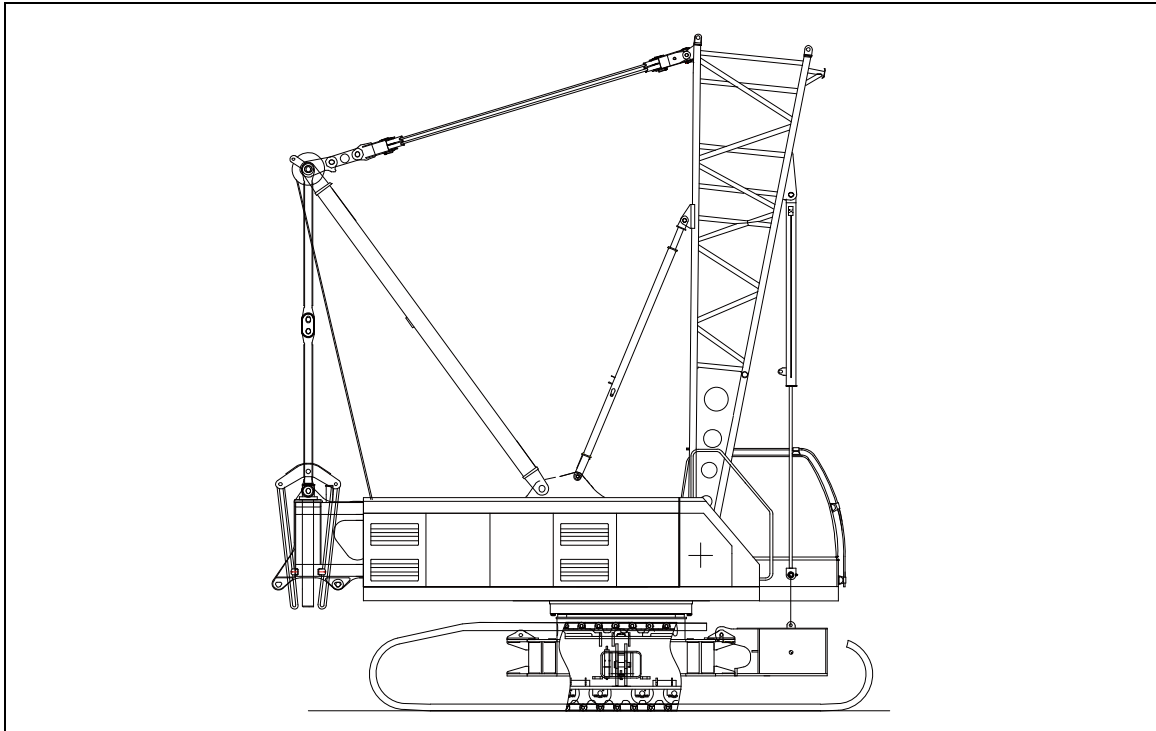

Figure 5-26 Attachment of central counterweight on the undercarriage central section
- e) After the central counterweight is assembled, keep the connection between the mounting cylinder and central counterweight. See the figure 5-26.